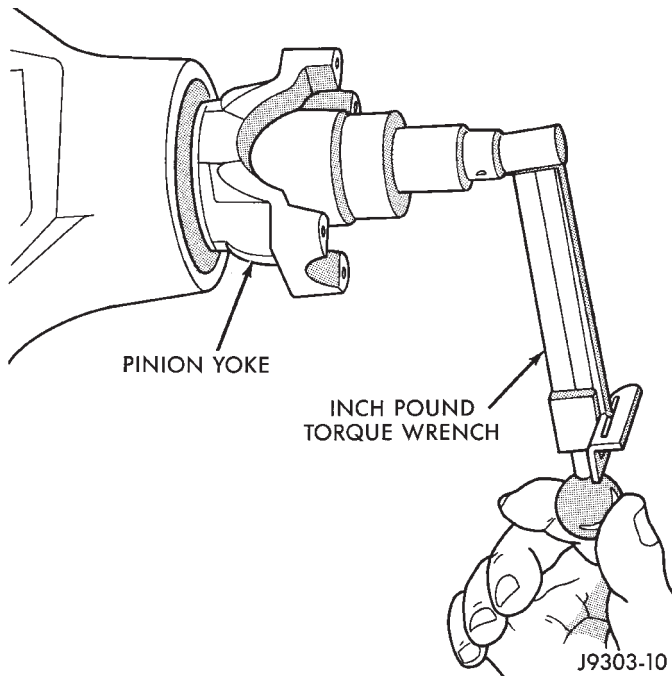

Fig. 19 Check Pinion Gear Rotation Torque—Typical
(9) Slowly tighten the nut in 6.8 N·m (5 ft. lbs.) increments until the required rotating torque is achieved. Measure the rotating torque frequently to avoid over crushing the collapsible spacer (Fig. 19).
(10) Rotate the pinion gear a minimum of ten times. Verify that the pinion rotates smoothly. Check rotating torque with an inch pound torque wrench (Fig. 19). The torque necessary to rotate the pinion gear should be:
(11) Install differential assembly and axle shafts, if necessary.
(12) Align marks made previously on pinion companion flange and propeller shaft and install propeller shaft.
(13) Install brake rotors and calipers. Refer to Group 5, Brakes, for proper procedures.